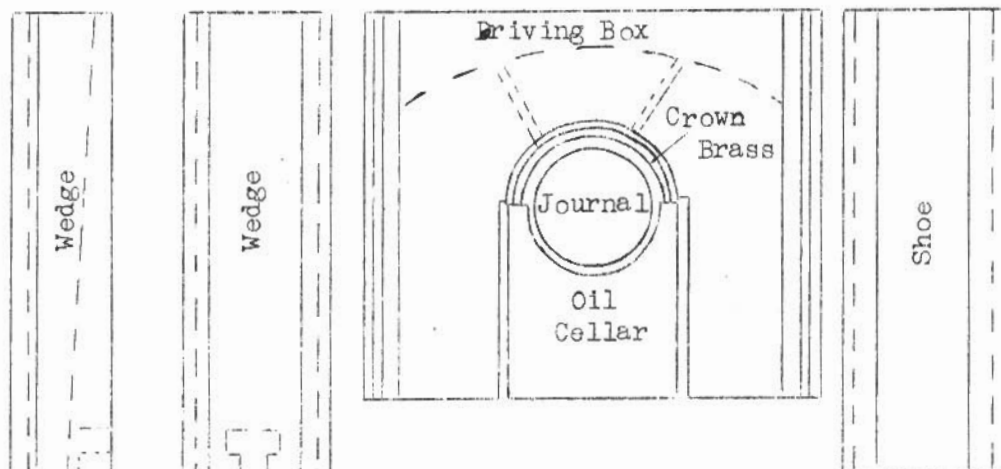

Figure 23
7. THE DRIVING BOX (Figure 23) sets in the axle jaws of the frames as a housing for the axle and a driving box journal (#7) is set into the driving box and works as a bearing for the journal. The driving box shoe and wedge (#8) are placed between the sides of the driving boxes and the frame. They keep the driving box in position and enable the driving box to ride up and down in the jaws of the frames.